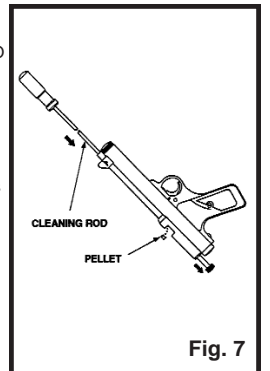

Fig. 7
- With the bolt in the open position, insert a ramrod in to the muzzle end of the barrel and gently push the jammed pellet in to the pellet loading port (forward of the bolt). (Fig 7)